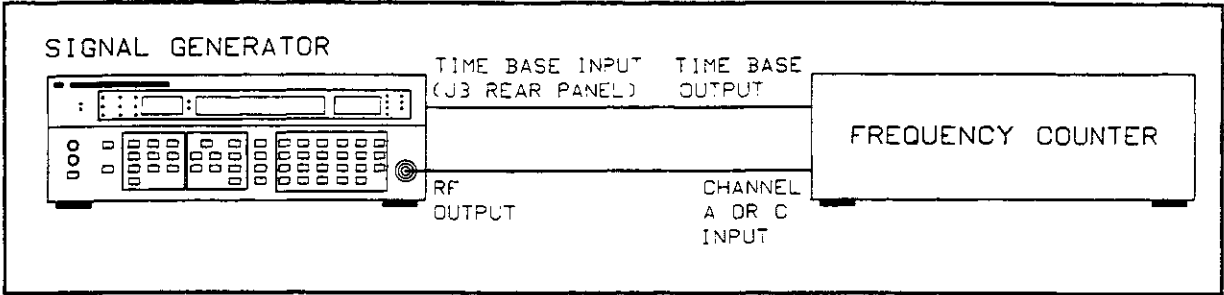

Figure 4-11. DC FM Test Setup
- 27. Connect the RF OUTPUT from the Signal Generator to the INPUT of the frequency counter, and connect the Signal Generator TIME BASE INPUT to the Frequency counter TIME BASE OUTPUT as shown in Figure 4-11.
Figure 4-11 shows the RF Pulse as displayed on the oscilloscope. The Delta V markers are the approximate 10 and 90% Levels of the pulse envelope. The reading Δt is the Rise Time.